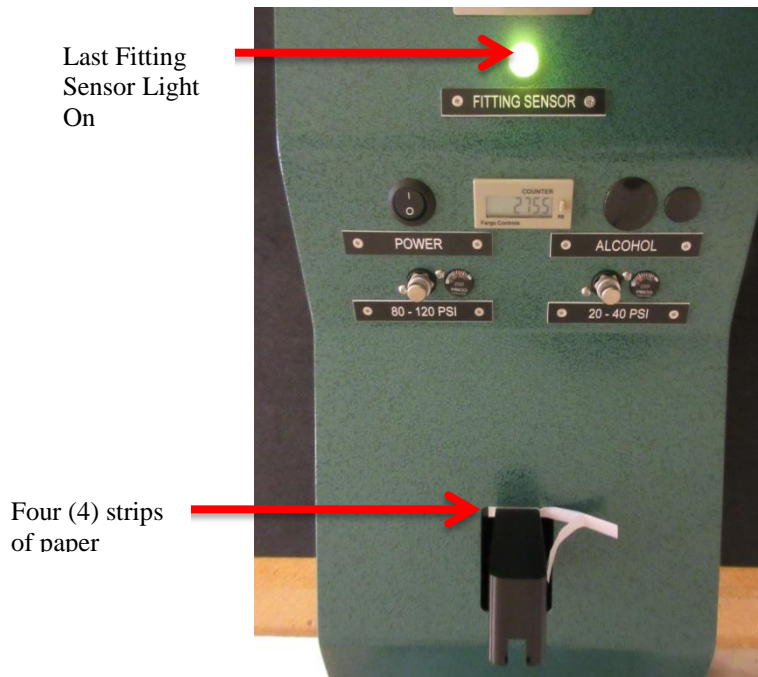

Figure 2.7.4
When four (4) strips of paper are inserted between the magazine and the top of the magazine rack, the Last Fitting Sensor light should be on. (Figure 2.7.4)
If the Last Fitting Sensor light remains lit with five (5) strips of paper between the magazine and the top of the magazine rack, adjust the sensor downward (turning the adjustment screw counter-clockwise) until the light goes out, then return to the previous steps detailing figures 2.7.4 – 2.7.6.
Once the Last Fitting Sensor is adjusted properly, it will remain lit with four (4) pieces of paper (Figure 2.7.4) and turn off with five (5) pieces of paper (Figure 2.7.7).